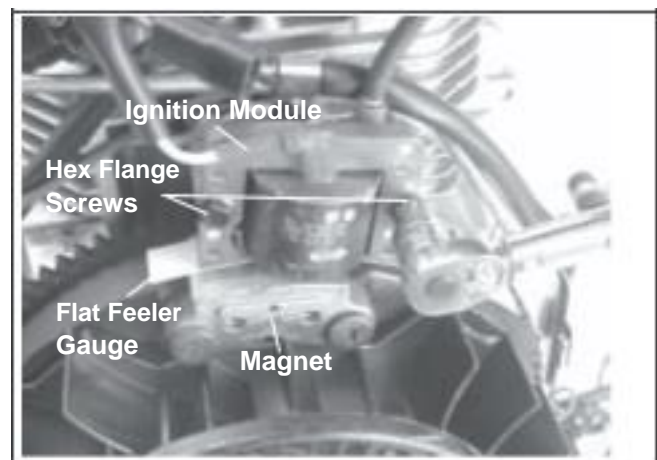

Figure 11-28. Installing Ignition Module.
2. Insert a 25 mm (0.010 in) flat feeler gauge or shim stock between the magnet and ignition module. See Figure 11-28.